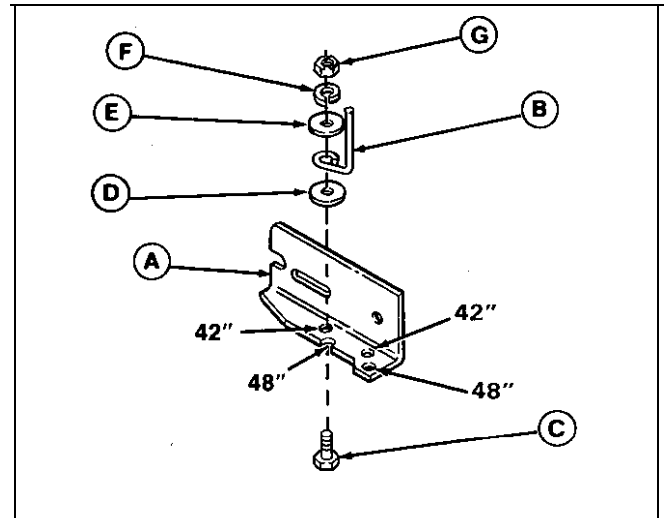

Figure 9A. Arbor Bracket and Belt Stop
5. Install, the arbor bracket (A, figure 9A) and rear belt stop (B) as shown. Note the different holes for the 42" and 48" mowers. Tighten **nut** (G) snug only-belt stop will be adjusted in step 8.